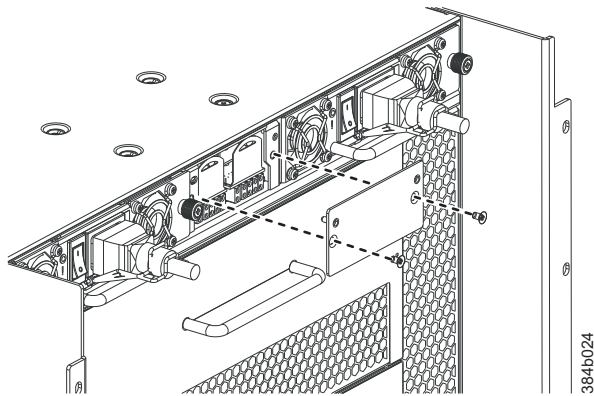

Figure 43. WWN bezel and card removal and installation
7. Remove the two screws from the WWN bezel . Pull the bezel away from the chassis and set it aside (see Figure 43). The two WWN cards are now visible.